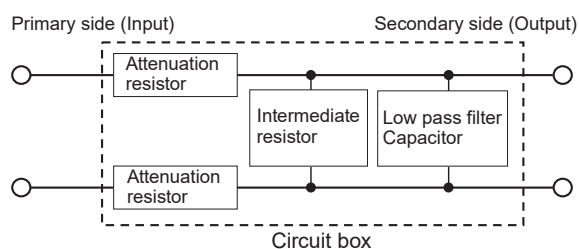
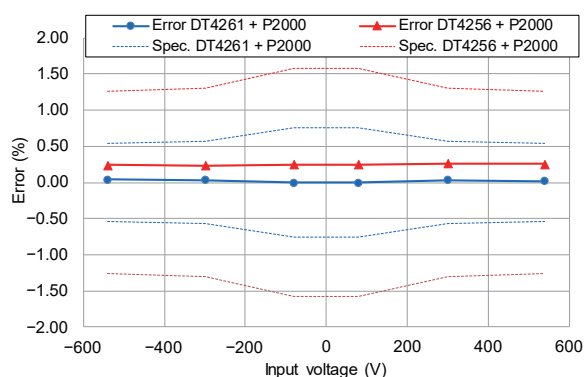

Fig. 7. P2000 circuit architecture.
Fig. 8. P2000 linearity characteristics (600 V range).
1) *Electric circuitry*: Fig. 7 provides a block diagram of the P2000's electric circuitry. The P2000 consists only of the passive resistor and capacitor components. The attenuation resistor is designed to satisfy the protective impedance requirements of the CAT III 2000 V /CAT IV 1000 V safety standard so that the secondary-side output poses no risk, even if touched directly by a person.
2) *Output ratio correction*: As illustrated in Fig. 7, the P2000 consists only of passive components. As a result, its output ratio varies depending on the input impedance of the instrument to which it is connected. The DT4261 and CM4370-50 series offer a DC High V Probe mode that corrects the output ratio using the instrument's own input impedance. Figs. 8 and 9 provide linearity characteristics graphs for the DT4261, which has DC High V Probe mode, and the DT4256, which does not, when used with the P2000. DC High V Probe mode not only increases measured value readability, but also allows more accurate measurement.